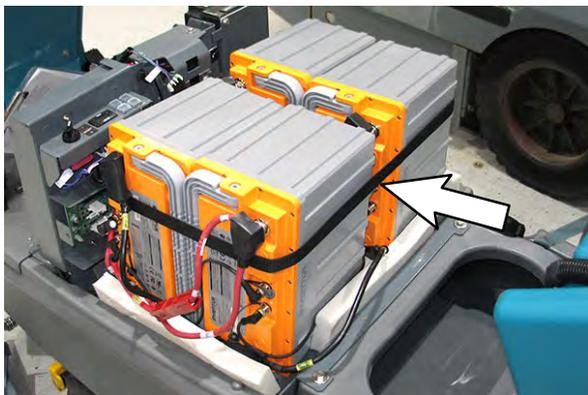

FIG. 48
46. Loop the strap (9) around the four lithium batteries (1). Ensure the strap is not covering any communication cable/battery cable connections. Cables/connections could be damaged if strap is tightened on top of them. (Fig. 48)
47. Tighten the strap (9) around the lithium batteries (1). (Fig. 48)